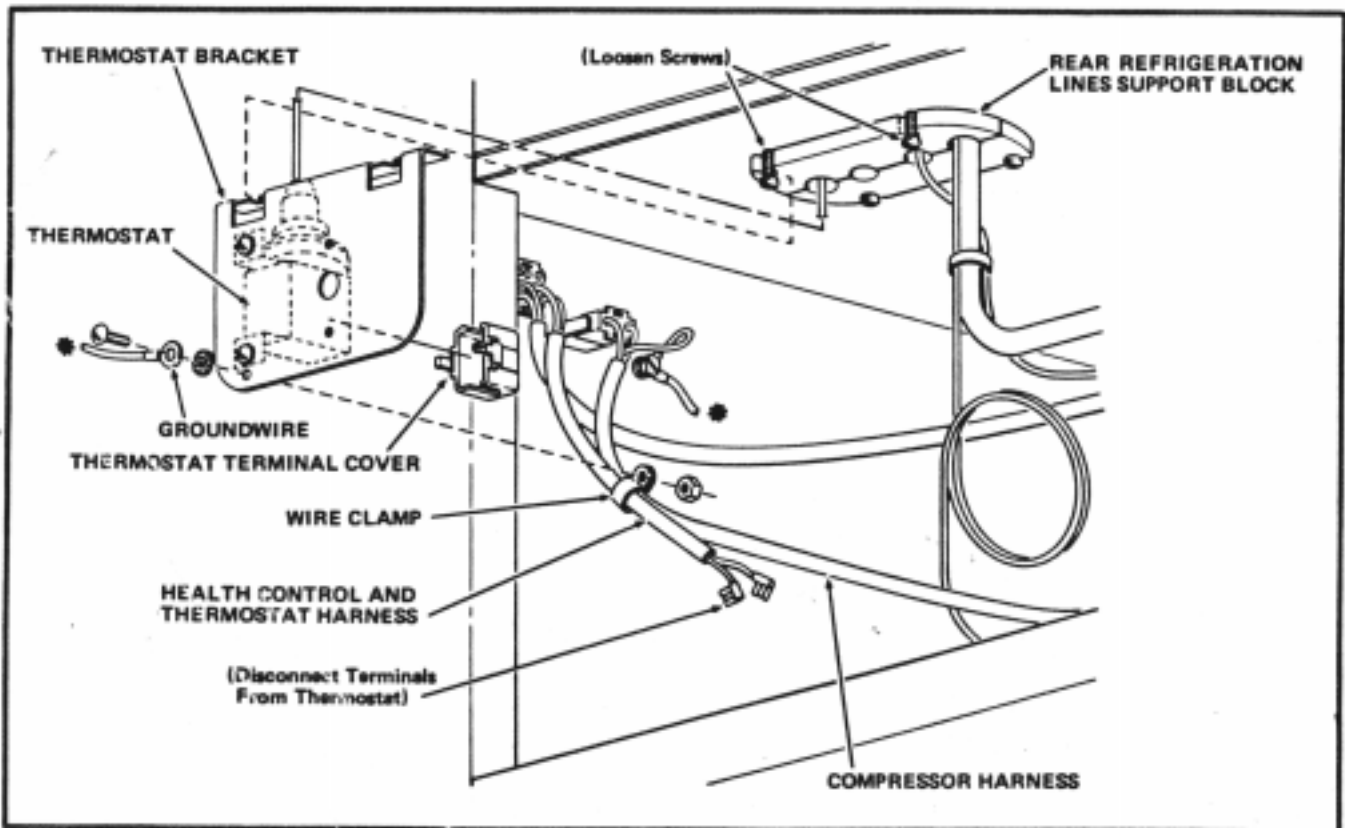

FIGURE 2
4. Remove the Screw and Nut which attach the Ground Wire, Wire Clamp and two Harnesses to the Thermostat Bracket. See Figure 2. The Screw, Nut and Wire Clamp will not be reinstalled.
5. Loosen the two Screws which attach the Thermostat Bracket to the rear Refrigeration Lines Support Block and lower the Bracket and Thermostat. See Figure 2.
6. Loosen the attaching Screw and remove the Thermostat Terminal Cover from the Thermostat. See Figure 2.
7. Disconnect the two flag terminals of the Health Control and Thermostat Harness from the Thermostat and remove the Thermostat and Thermostat Bracket from the Merchandiser. See Figure 2.